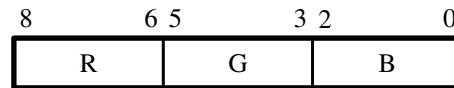

Figure 8. 9-bit RGB Color Space.
- 9-bit RGB — This format uses 3 bits per symbol as shown in Figure 8. This mode is defined as 3 bits per symbol and three symbols per beat.